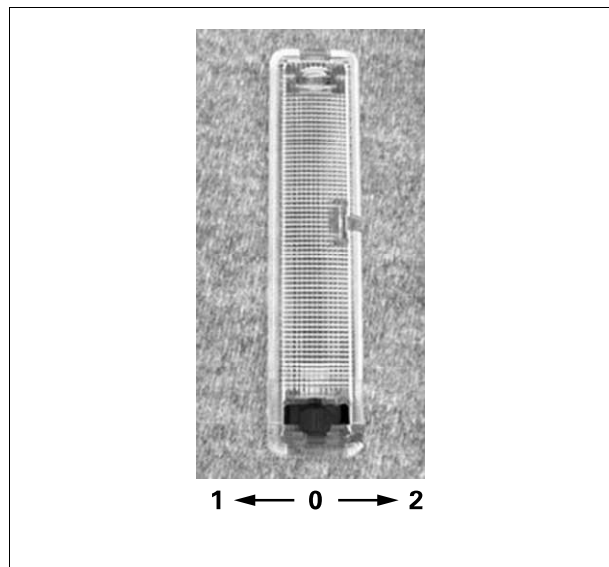

Fig. 14.
| (1) | Interior light fig. 14 | (5) | Ventilation/fan control |